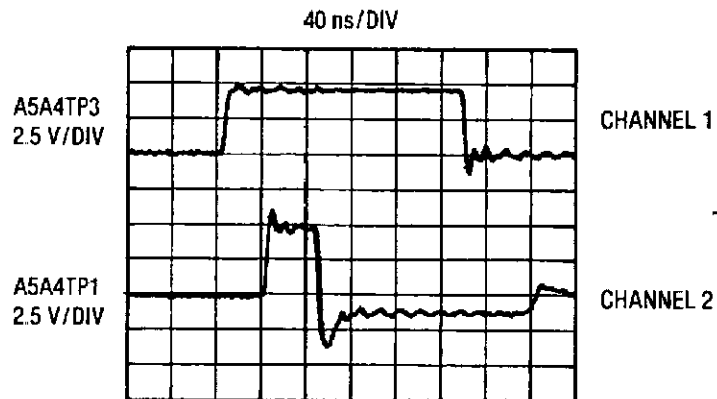

Figure 8-60. Pulse Driver Board Input and Series Pulses
43. Connect Channel 1 of the oscilloscope to A5A4 TP3 and Channel 2 of the oscilloscope to A5A4TP1. Adjust the oscilloscope as shown in figure 8-60 then compare the oscilloscope display to the figure.